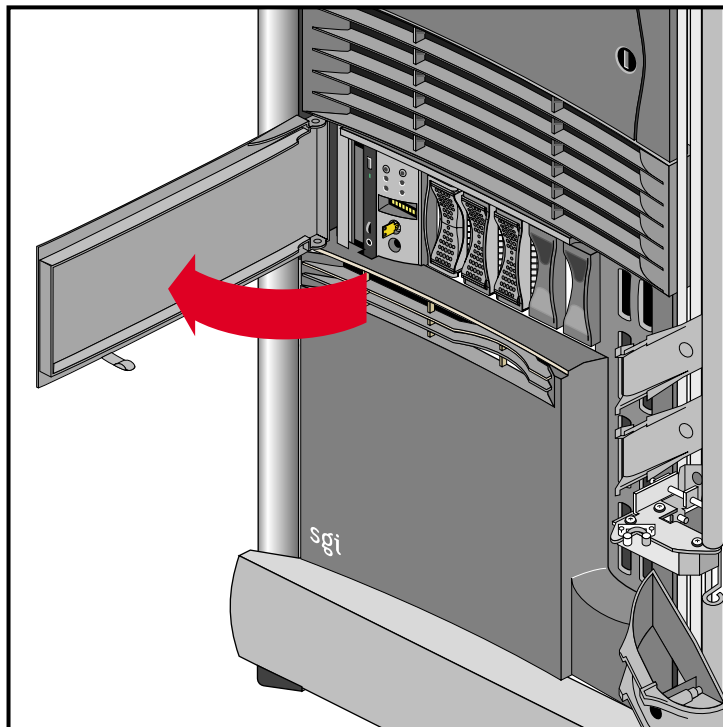

Figure 5-3 Opening the Compute Module's Door
1. Swing open the drive door as shown in Figure 5-3.